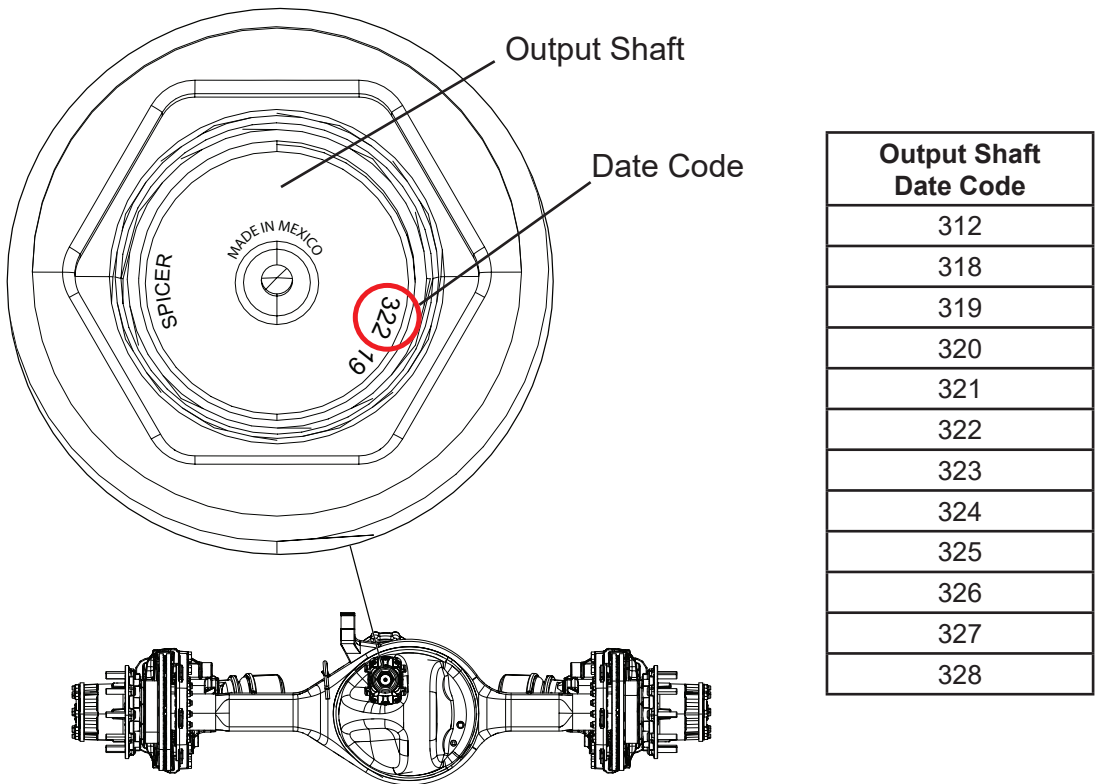

Figure 3
6. Clean off the end of the forward rear drive axle output shaft, see Figure 3.
7. Locate the date code stamped on the end of the output shaft, see Figure 3.
If the date code stamped in the end of the output shaft is listed in the Figure 3 table contact Dana Warranty/Service at 877-777-5360 for information on replacing the output shaft.
If the output shaft does not include a date code listed in the Figure 3 table go to Step 8.